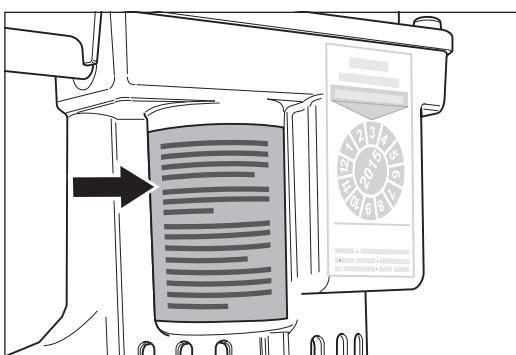

Fig. 19 Note the warning on the motor housing!
- Note the warning on the motor housing (fig. 19)!